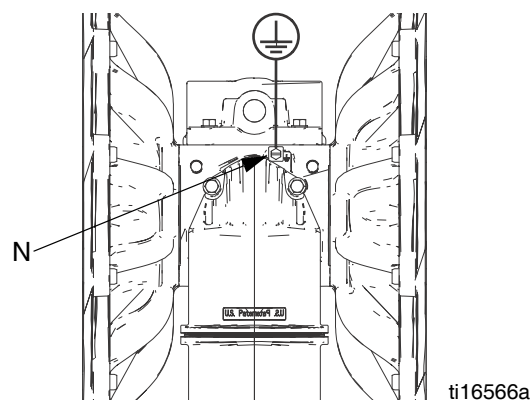

FIG. 3. Ground screw and wire
- N Ground screw (Aluminum and stainless steel only, see FIG. 3, page 9)
Pump: See FIG. 3. Loosen the ground screw (N). Insert one end of a 12 ga. minimum ground wire behind the ground screw and tighten the screw securely. Connect the clamp end of the ground wire to a true earth ground. A ground wire and clamp, Part 238909, is available from Graco.